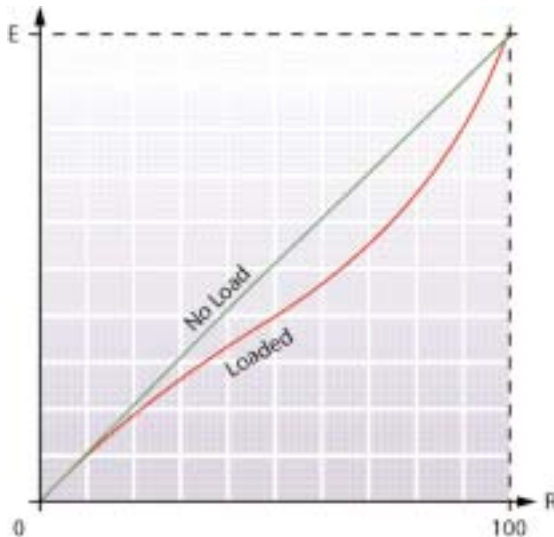

Figure 2: Error Due to Wiper Loading
contact resistance variation (CRV). The rule of thumb for selecting the wiper load is to use the ratio of total resistance (RT) to wiper load (RL) of 1:100 or higher (see Figures 2 and 3.)